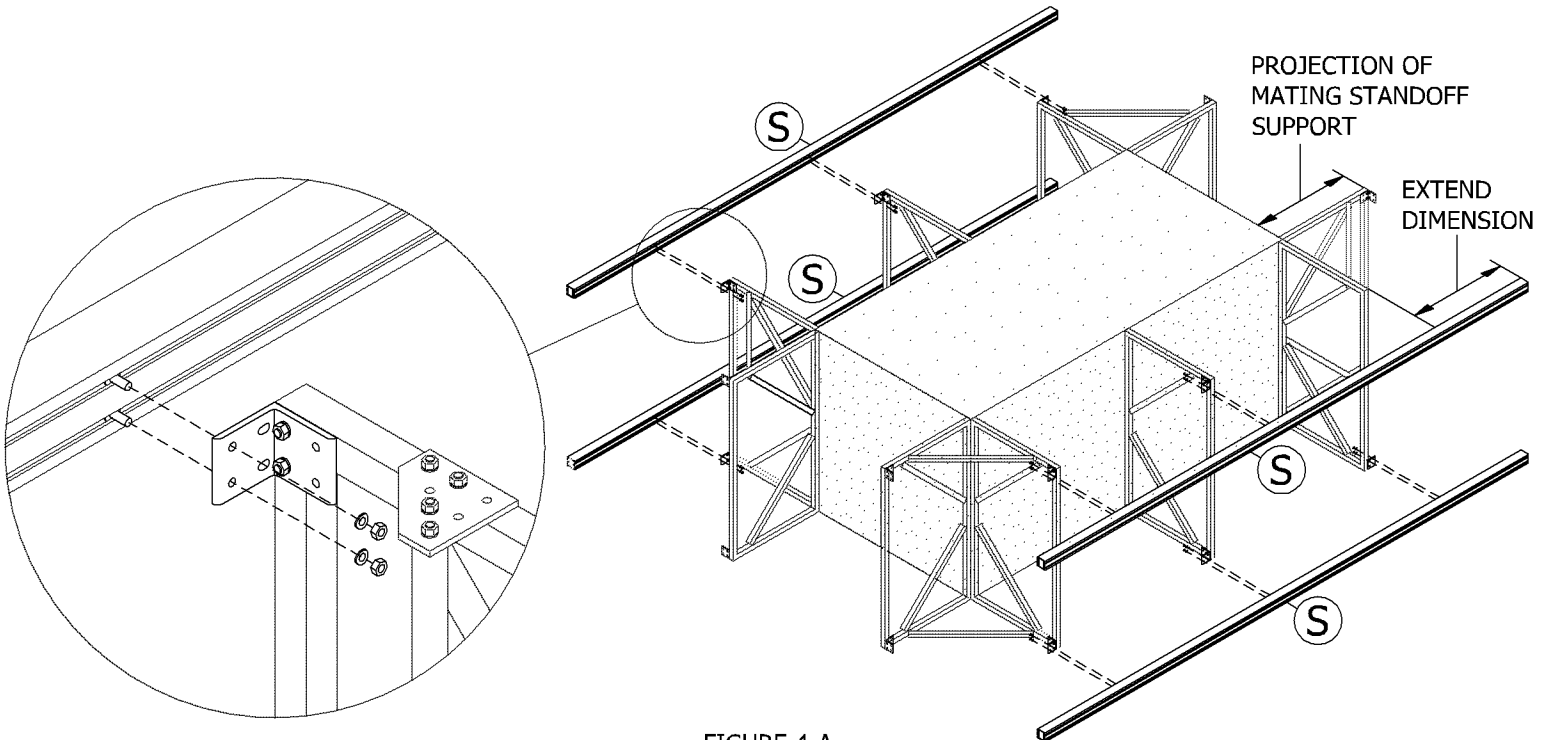

FIGURE 4-A
4. Lift the Rail "S" into place and align the bolts with the corner clip angles (see Figure 4-A). If the rails will end at a corner, then they must extend beyond the corner standoff support. This dimension is equal to the projection of the mating standoff support (see Figure 4-A). At any rails that will receive end caps "Y", the rails must extend beyond the standoff support 1.94" [1-15/16"] (see Figures 4-C and 4-D). Apply one lock washer and nut to each bolt and hand tighten. Do not tighten nuts with a wrench until all rails are mounted and aligned.